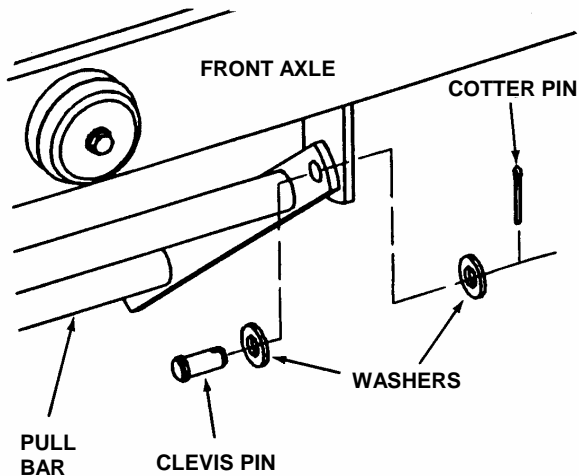

FIGURE 3.12
6. Disconnect pull bar from front axle by removing clevis pins and cotter pins. See Figure 3.12.